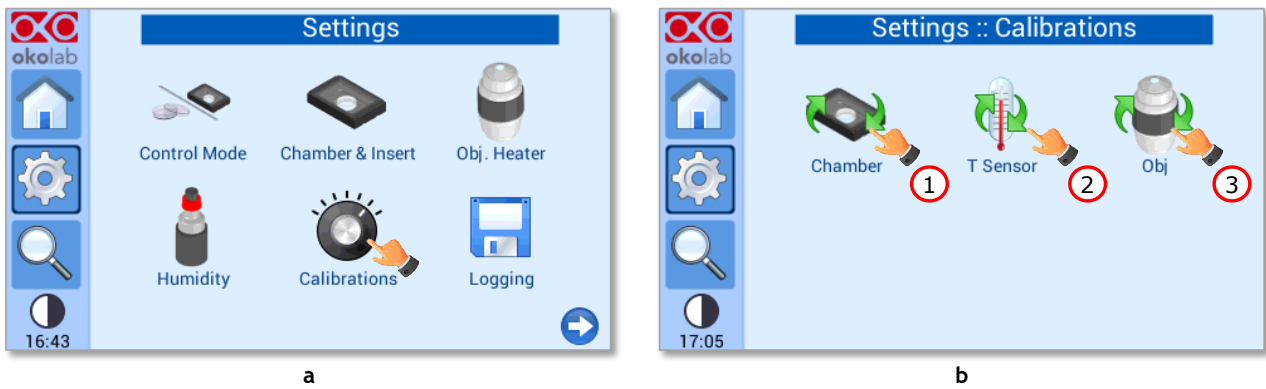

Figure 52. Settings - Calibrations - menu (a - b).
1. *Chamber* (see pointer 1 in Figure 52). Here you can perform the calibration of the incubating chamber, see paragraph 8.2.5.1.
2. *T Sensor* (see pointer 2 in Figure 52). Here you can perform the calibration of the T Sensor, see paragraph 8.2.5.2.
3. *Obj* (see pointer 3 in Figure 52). Here you can perform the calibration of the Objective Heater, see paragraph 8.2.5.3.